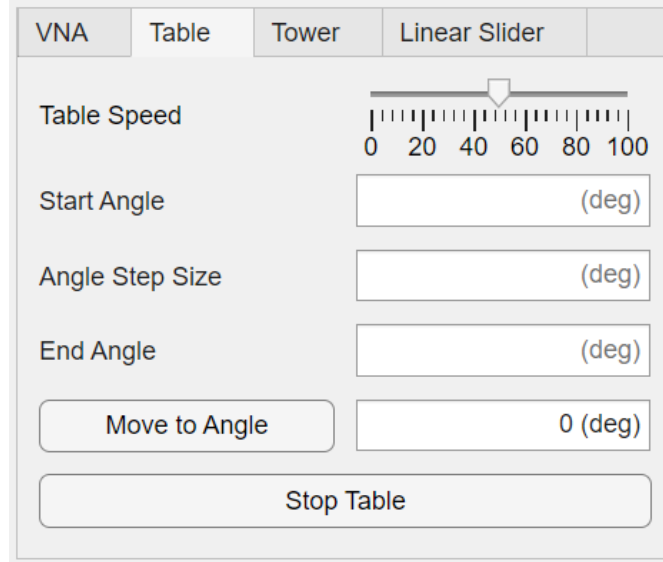

Figure 7: Turntable Interface
- Upon opening, you will see the interface shown in **Figure 7**, which provides six configurable settings for the turntable.